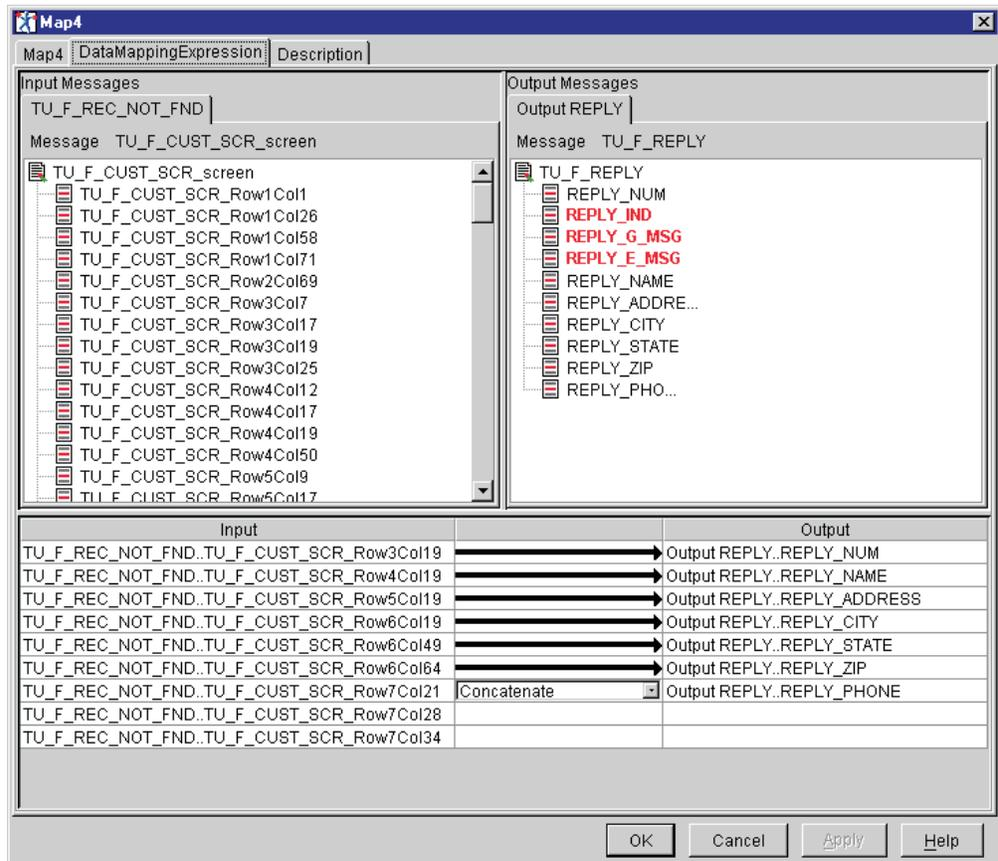

Figure 135. Mapping for Map4 node
- 6) Perform the mapping for the Map4 node as listed in Table 62 and shown in Figure 135 on page 176. When a record is present, this mapper sets all the customer data to the REPLY record.